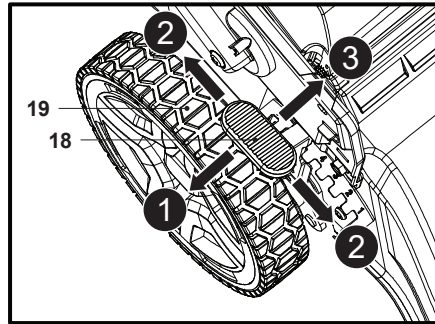

Fig. 11
1. Pull the lever (18) towards the rear wheel (19) (Fig. 11, step 1).
2. Move the lever (18) forward or backward to adjust the cutting height (Fig. 11, step 2).
3. Release the lever (18) and ensure it engaged in the slot properly (Fig. 11, step 3).